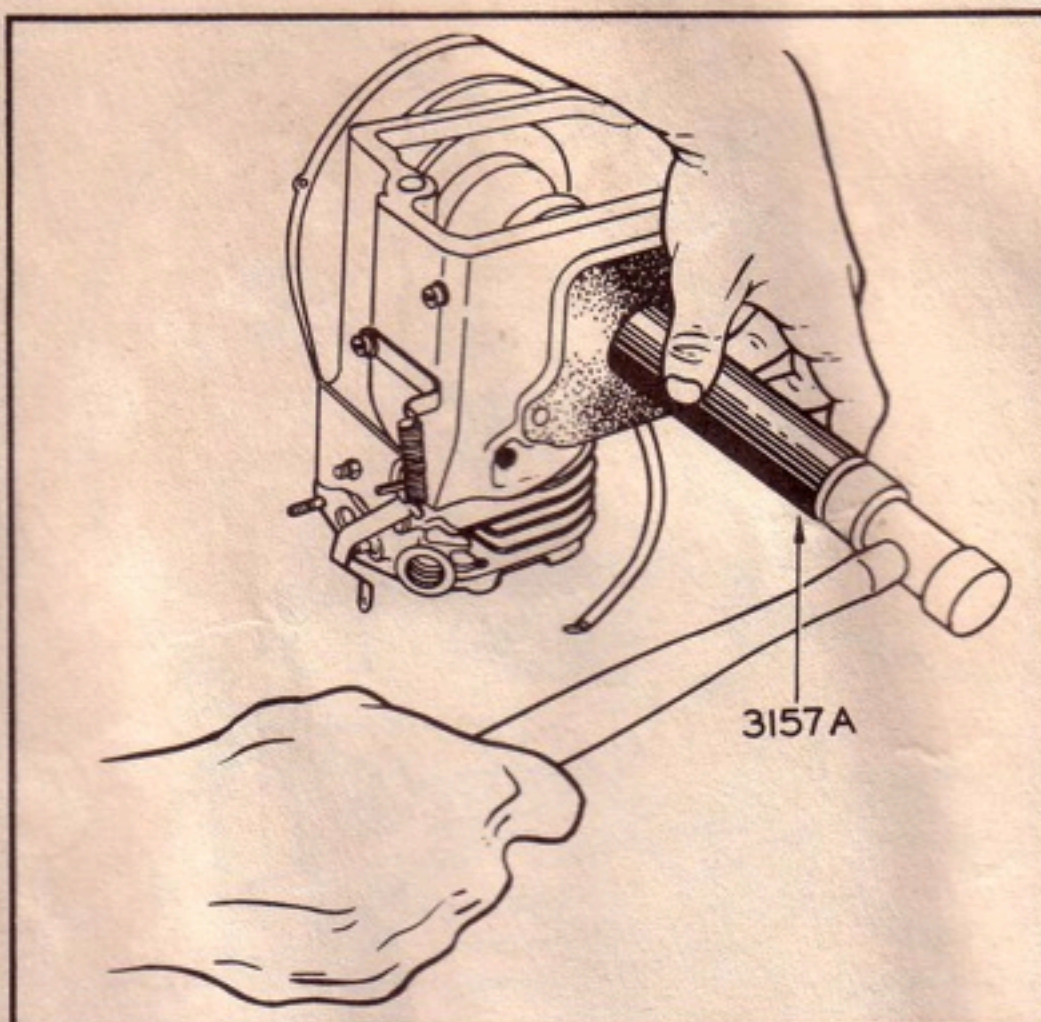

Figure C-33. Installing Oil Seal
b. Place the proper oil seal in position over the crankshaft, and insert it in its recess in the housing with the oil seal driver. (See figure C-33.)